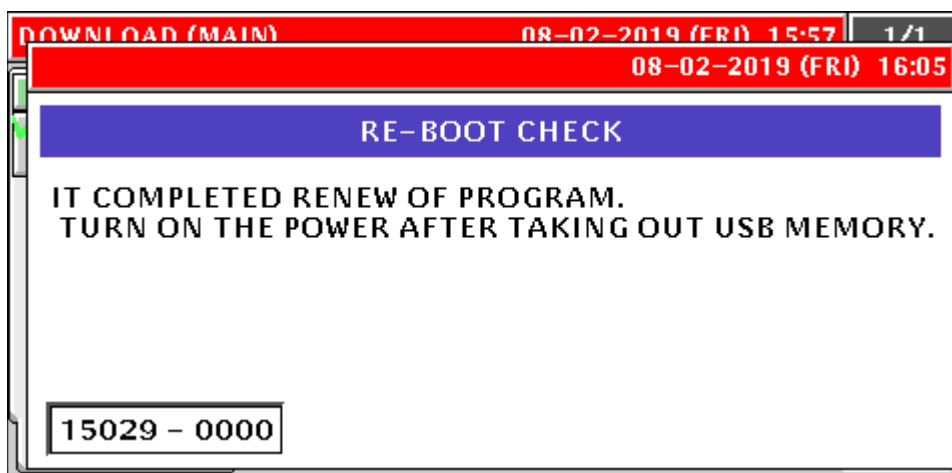

Figure 46. Firmware Download Is Complete
- t. When message 15029-0000 Re-Boot Check is displayed the firmware download is complete -- power the scale off. See Figure 46.